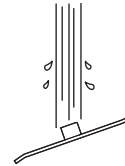

Fig. 16
- 4** Rinse the product surface with distilled, deionized or demineralized water (Fig. 16).